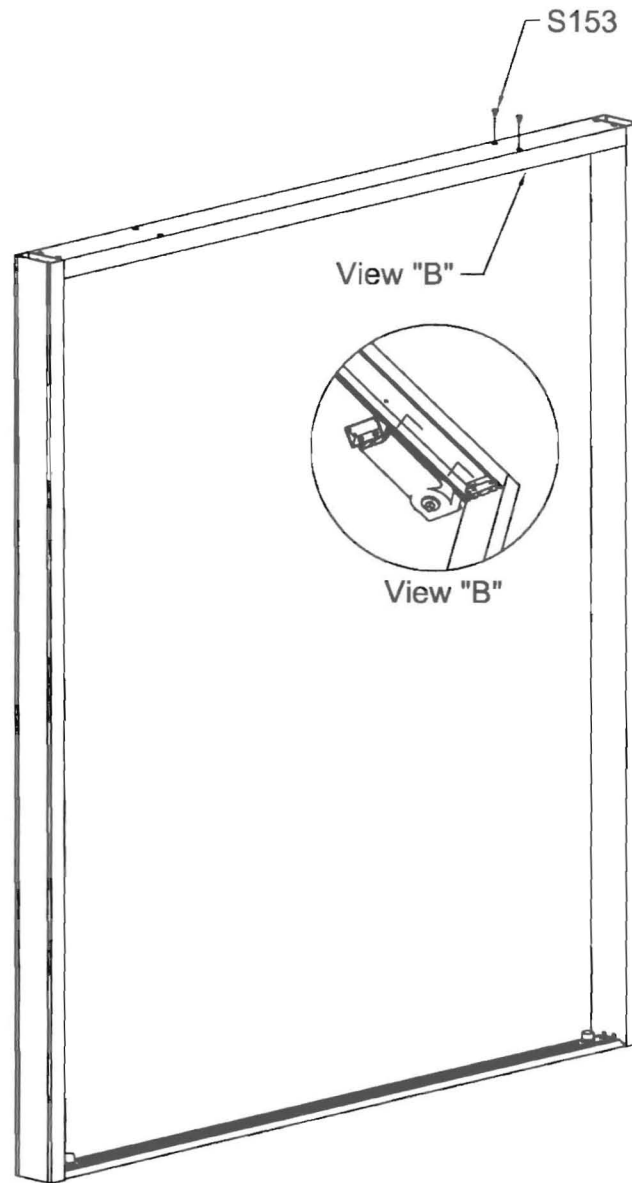

Figure 5
11. Hold closer in place and screw S153 screws as shown in Figure 5 from top of frame.